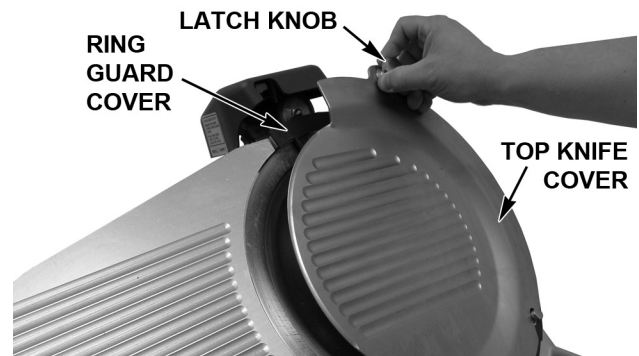

Fig. 11
- Remove the Top Knife Cover (Fig. 11) by pulling on the Latch Knob. The Top Knife Cover is held in place by a magnet under the Latch Knob.
- Remove the plastic Ring Guard Cover (Fig. 11) by lifting up.